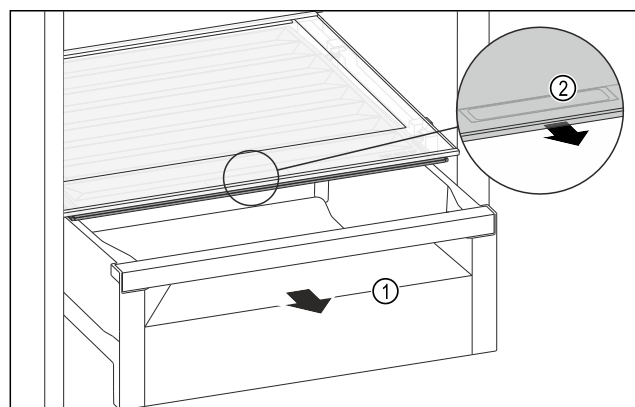

Fig. 135
- ▶ Pull out the drawer Fig. 135 (1).
- ▶ Grasp the recessed grip Fig. 135 (2) on the compartment lid and pull the compartment lid forwards at the same time.